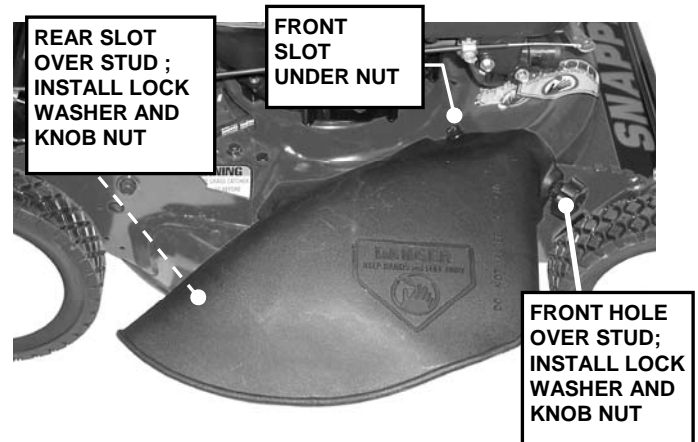

FIGURE 2.9
STEP 2: Install deflector to deck in place of recycling cover, making sure that: 1) hole on outside front of deflector fits onto stud in front of discharge opening where front of recycling cover was originally installed, 2) slot on top of deflector slips under restraining nut on top of deck (under right front corner of engine), and 3) slot on inside rear of deflector slips onto stud behind rear of discharge opening, where rear of recycling cover was originally secured. See Figure 2.9. Install internal/external tooth lock washers and knob nuts onto studs and tighten securely.